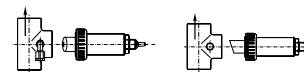

Figure 4: Installation in flow assemblies
- Two sensor orientations are possible for horizontal installation (Fig. 4):